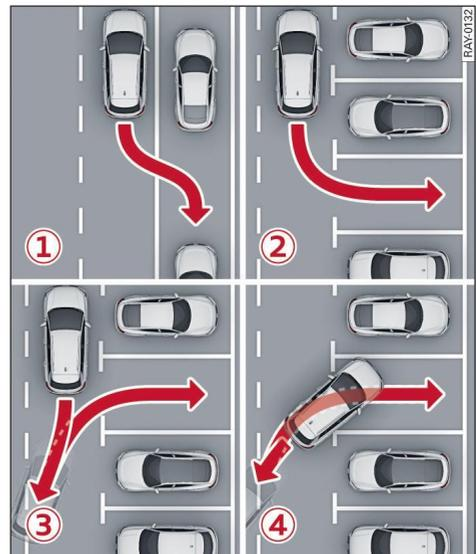

Fig. 110 Overview of parking options
- You can approach a perpendicular parking space forwards and then activate the system. However, for this purpose the front of the vehicle must already be in the space  ⇒ *page 136, Fig. 110* so that the sensors can measure the space.